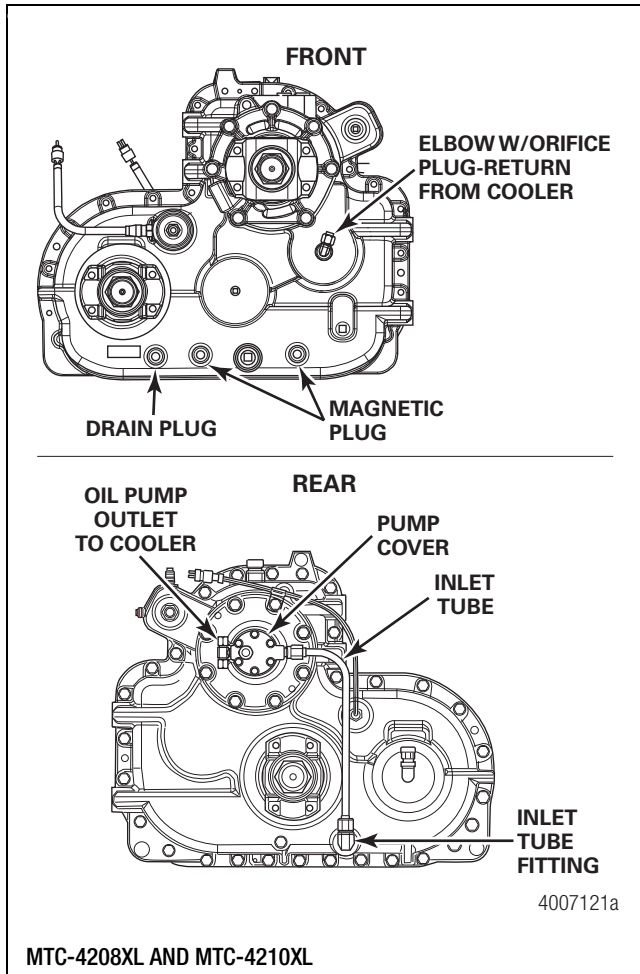
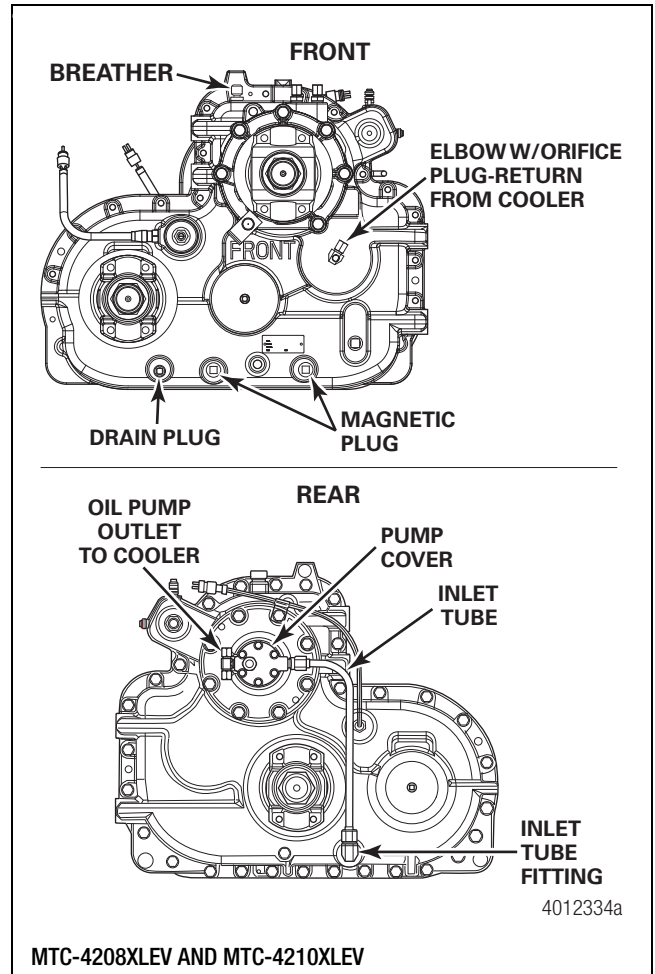

Figure 4.5
Figure 4.6
- Disconnect the inlet oil line and original lube fittings. Figure 4.5 and Figure 4.6.